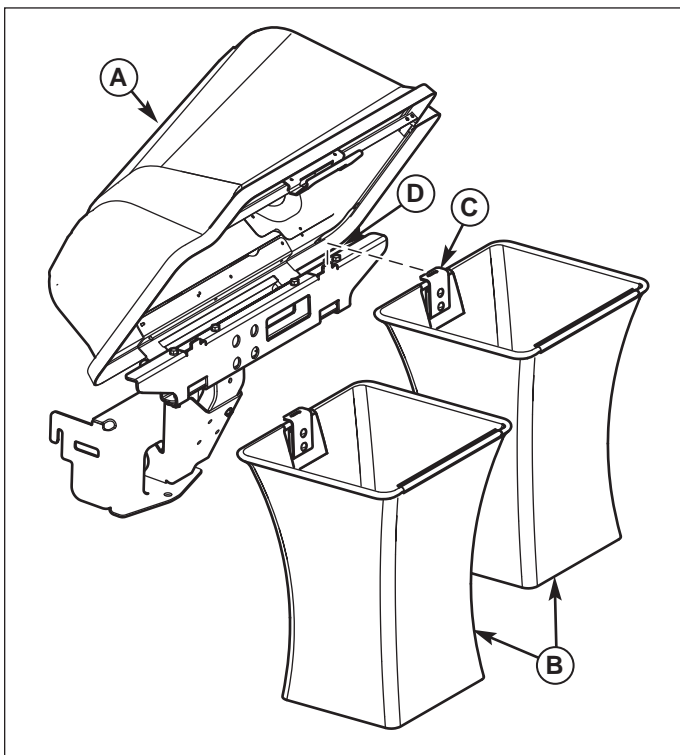

Figure 11. Install Collector Bags
1. Raise the cover (A, Figure 11).
2. Attach collector bags (B) using grass bag hanger (C) to bag hanger post (D).